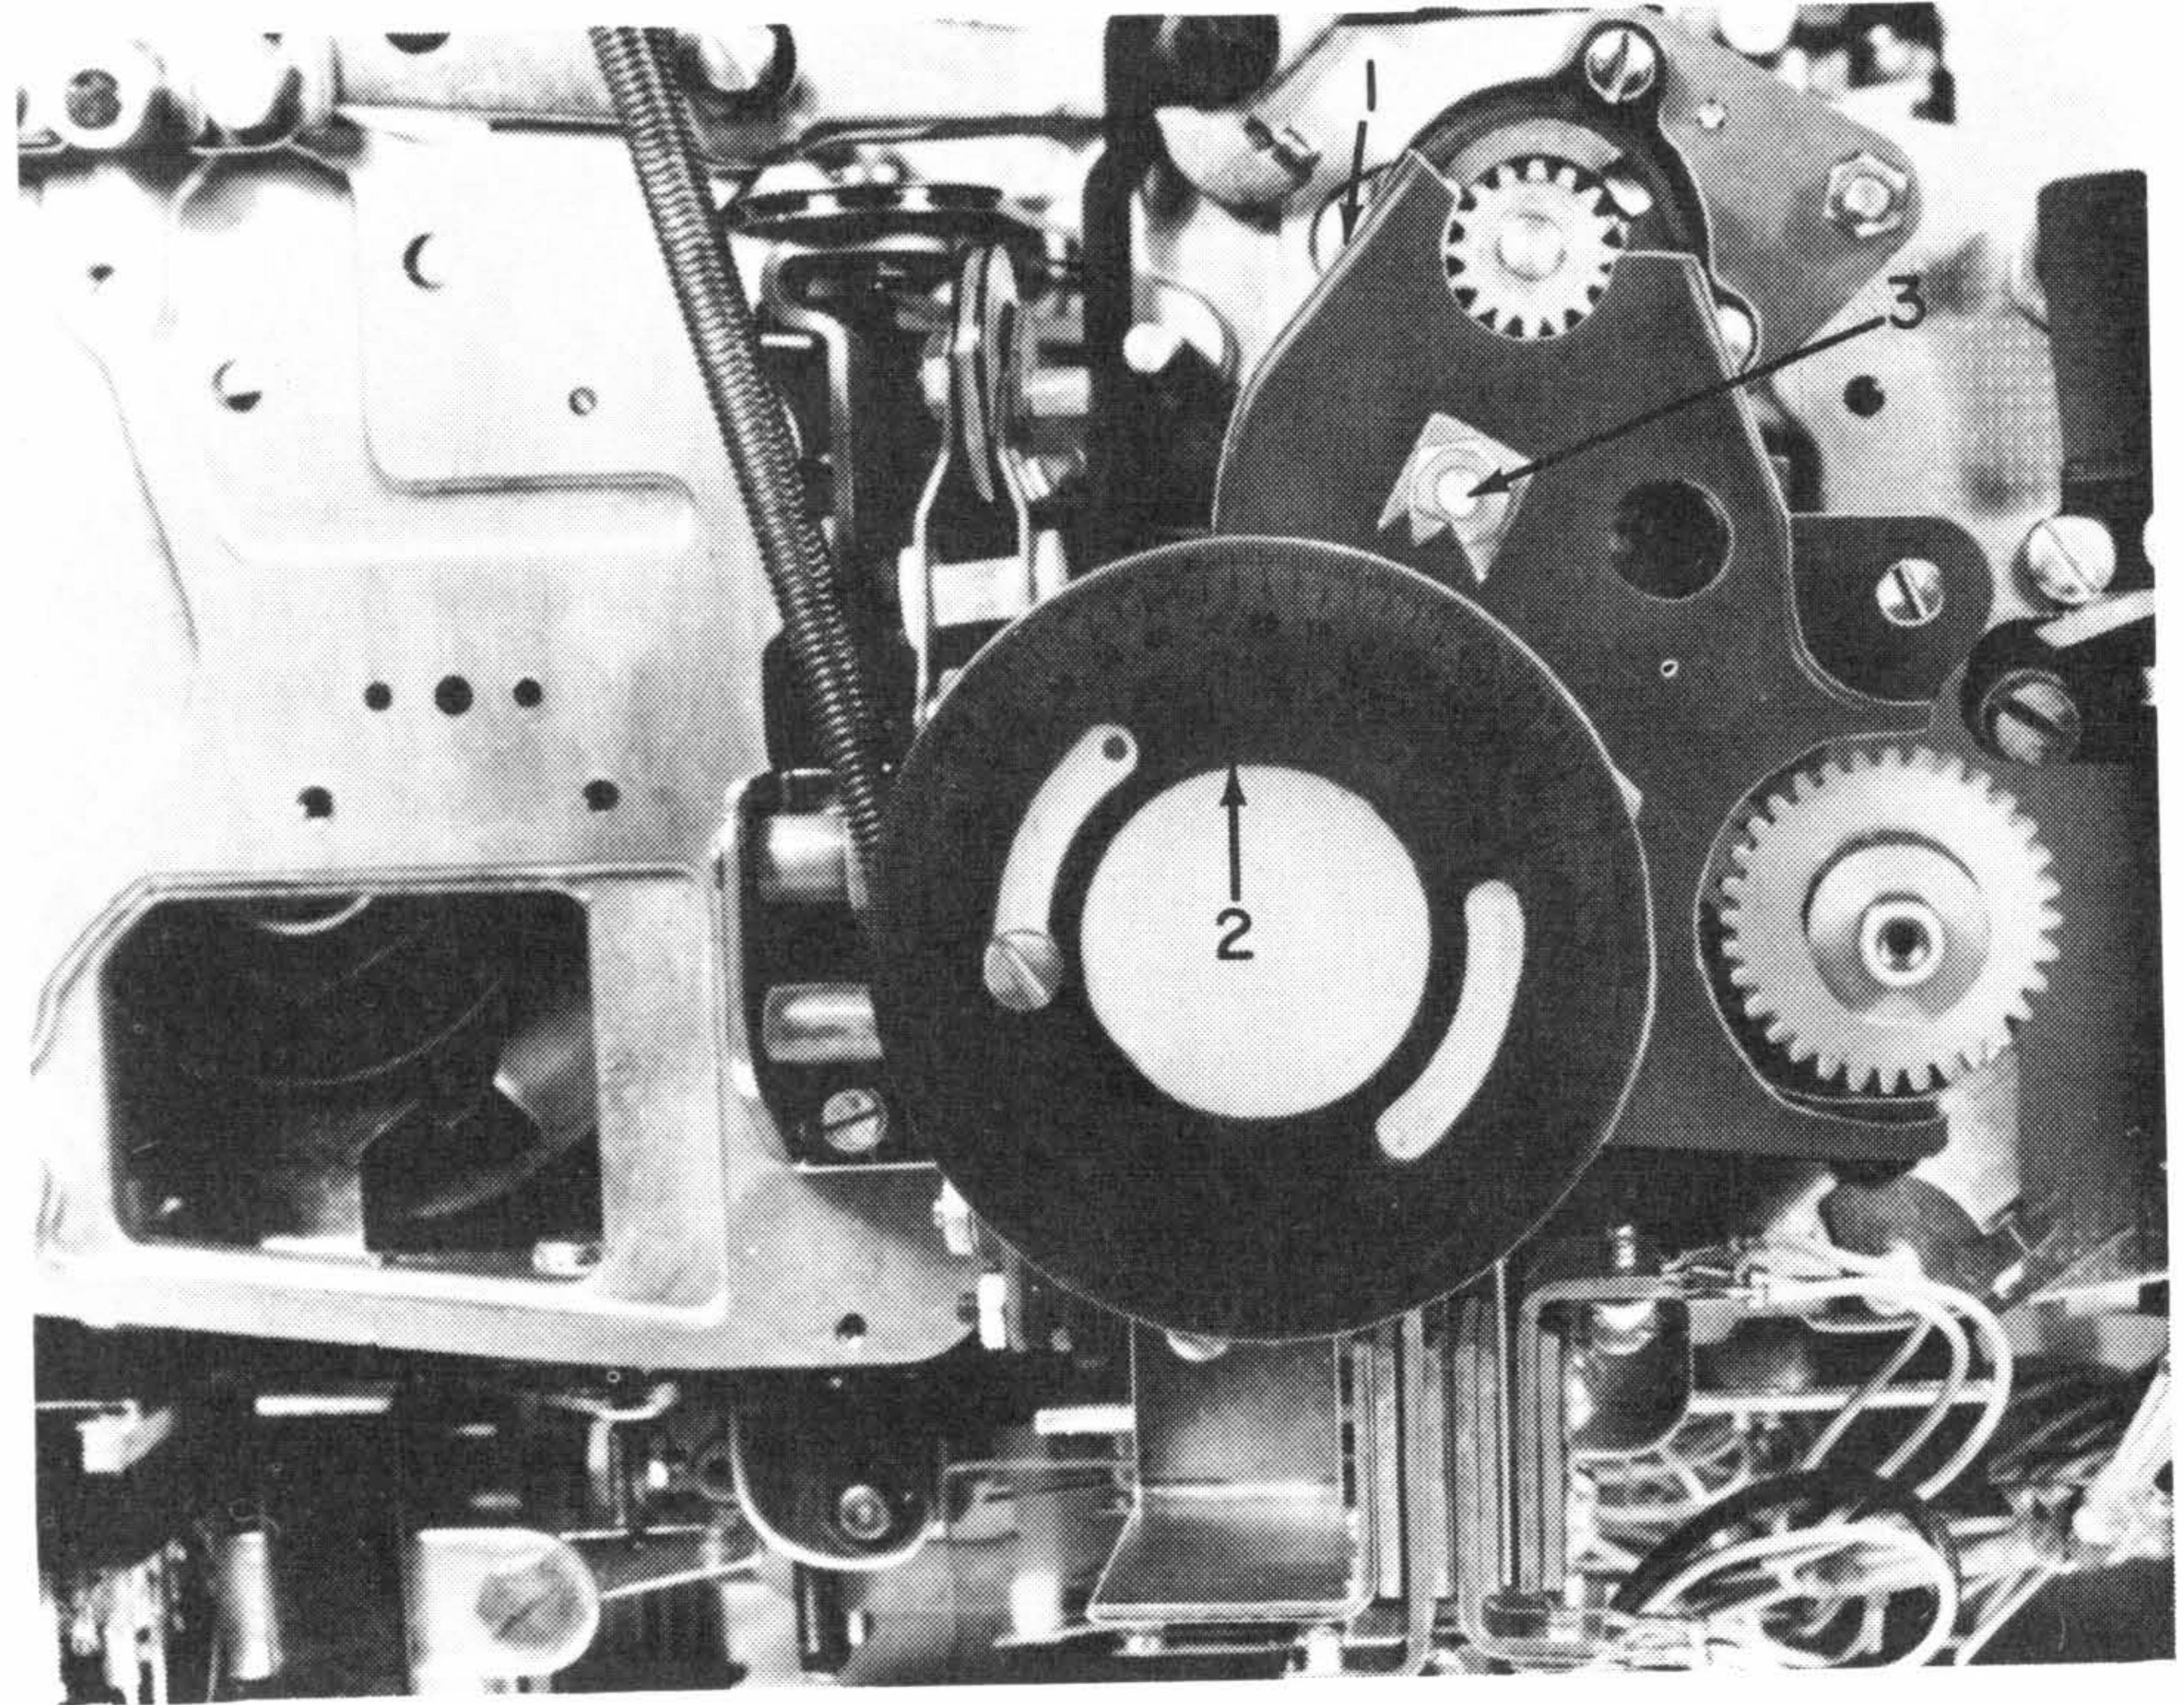

Figure 6. Belt Replacement
2. Remove the degree-wheel pointer (#3, Figure 6).
3. Remove the degree wheel (#2, Figure 6).
4. Remove the gear guard (#1, Figure 6).